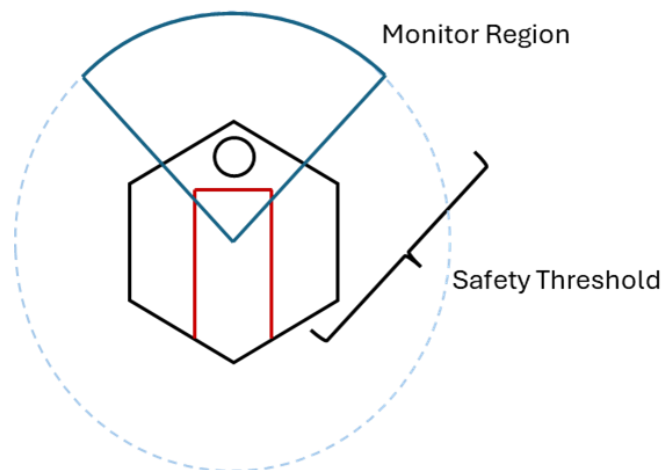

Figure 3. Dynamic Scanning
2. Notice that in addition to the LiDAR measurements, QBot body speed commands are also used as input to the function. The additional inputs allow our obstacle detection algorithm to dynamically change monitor region and safety threshold, as shown in Figure 3.